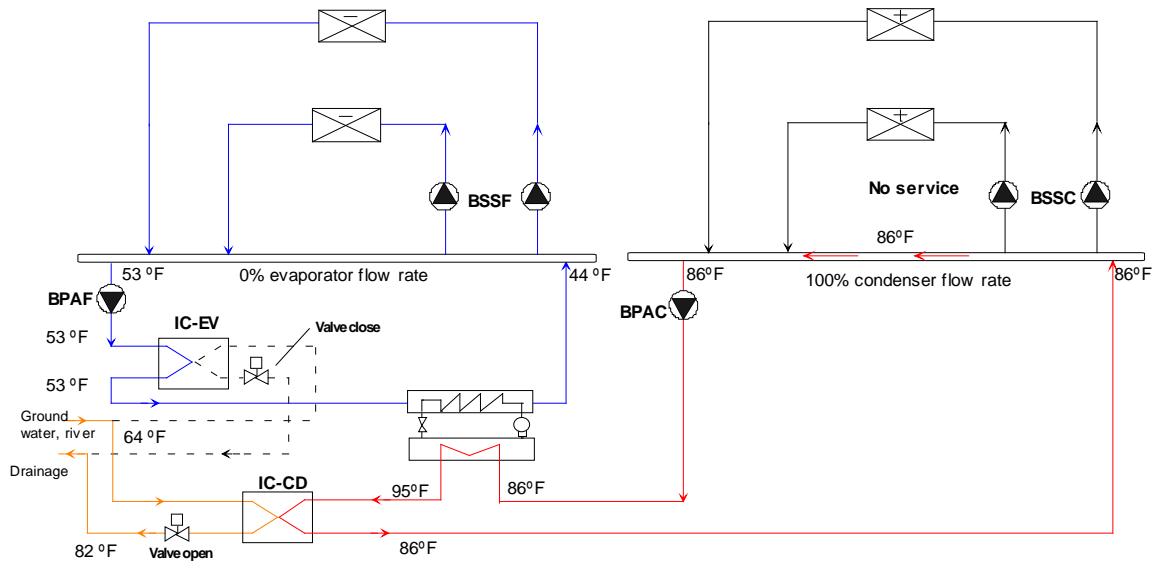

Figure 31. Loop-to-Loop Heat Pump Cooling Only
1. Cooling only (Figure 31) – In this mode, the chiller tracks the demand of the chilled-water loop. The heat is rejected from the hot-water loop to the well-water loop via heat-exchanger IC-CD. The heat-exchanger is controlled to maintain a leaving hot-water temperature setpoint of approximately 86°F (leaving the heat-exchanger; entering the chiller condenser).